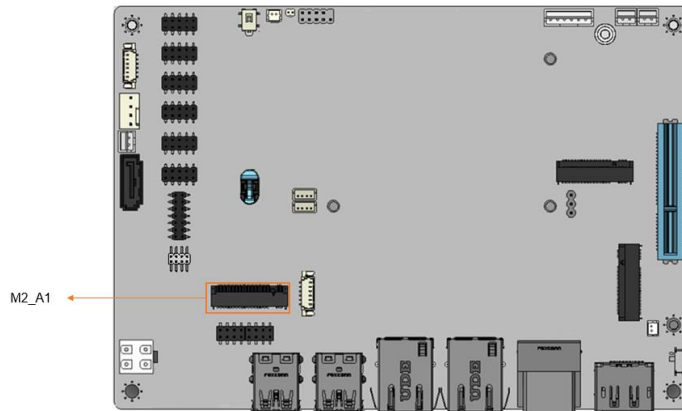

Figure 3-15: M.2 A-key Slot Location
- CN Location:** See **Figure 3-15**